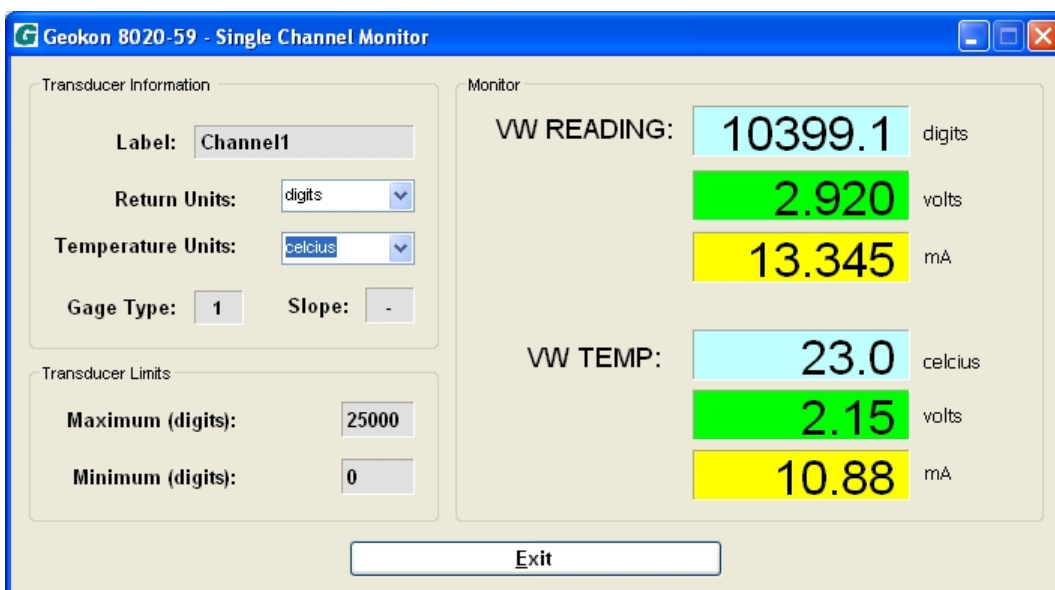

Figure 12 - Single Channel Monitor
- 10) Click “Activate/Monitor” (or press the “Alt” and “m” keys). The “Upload Confirmation” dialog will be displayed with the prompt: “Do you want to upload the current settings to the 8020-59?”. Click the “Yes” button. The Single Channel Monitor screen should now appear (see Figure 12), and after several seconds should update with a reading.